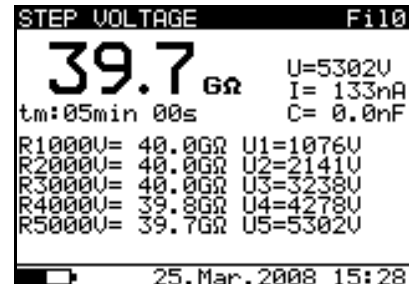
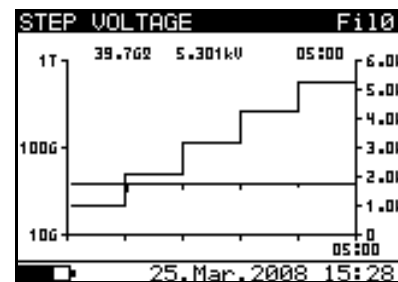

Fig. 39: Numerical screen of result
Fig. 41: Graphical screen of result
6. Wait for the end of the set Timers. The result of test is shown at display (see Fig. 39 or Fig. 41) with meaning of items descript in Table 8